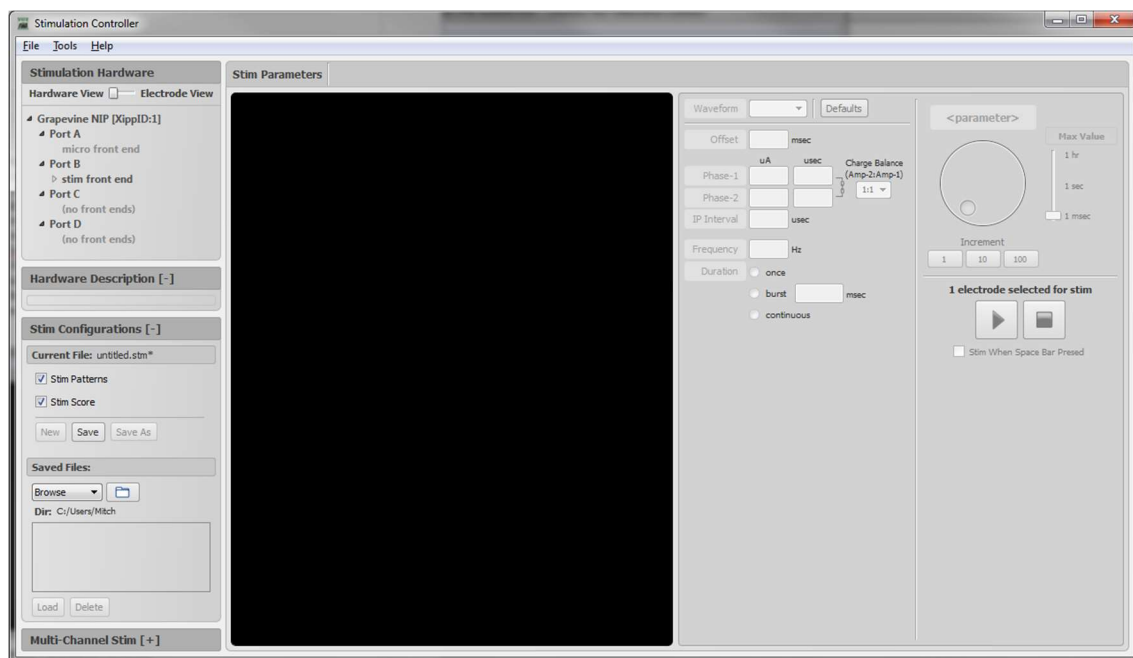
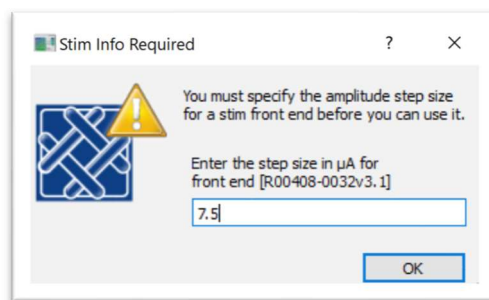
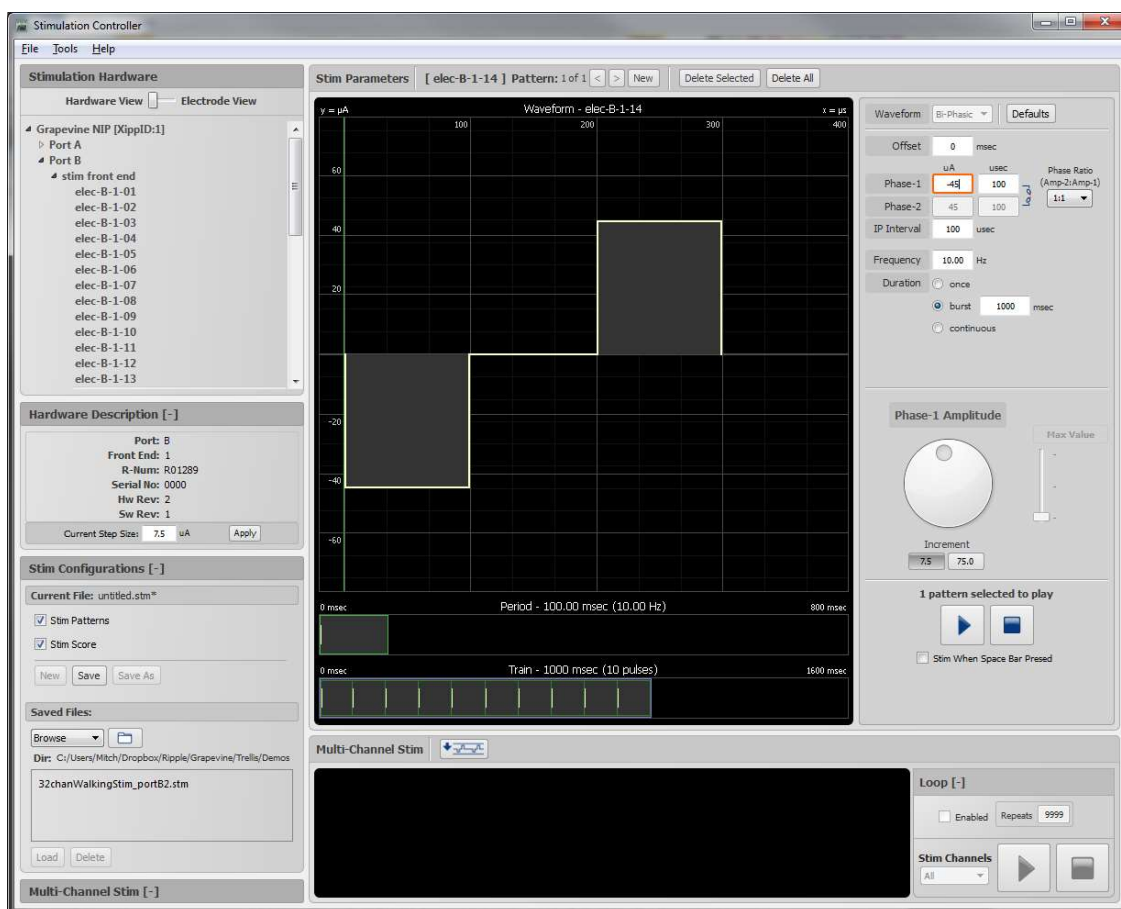
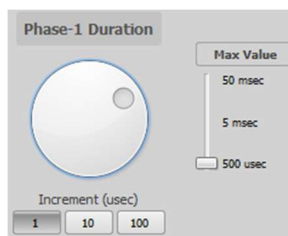

Figure 3-24 Trellis Applications – Stimulation Controller
Figure 3-25 Trellis Applications – Stimulation Controller – Stimulation current step size (Micro+Stim)
Figure 3-26 Trellis Applications – Stimulation Controller – single electrode stimulation pattern
Figure 3-27 Trellis Applications – Stimulation Controller - Parameter dial
When the application is started, the Stimulation Hardware panel in the top left will display all available Stim FEs and their channels. All other FEs, which do not support stimulation, will be grayed out, as shown in Figure 3-24. The stimulation current step size for Stim FEs is user-controlled and set in the Hardware Description Panel, described later in this section. For the older Micro+Stim FE, the stimulation current step size must be entered when a Micro+Stim is loaded in the Stimulation Controller app for the first time, as shown in Figure 3-25.
After expanding the ‘micro+stim front end’ entity in the Stimulation Hardware panel and selecting an available electrode, a configuration display will appear, as seen in Figure 3-26. This display provides the Front End hardware information and enables the configuration of various stimulation parameters for one or more electrodes as described in the following sections.
On the left of the Stimulation Controller window are several information and control panels that can be expanded and minimized by selecting the [+] or [-] next to each panel label. A detailed description of the panels follows (Refer to Figure 3-26):
- **Stimulation Hardware.** This panel displays a list of all available stimulation channels. In parentheses next to each electrode is a label indicating the number of different stimulation patterns that have been created for that electrode. When a channel is selected, its current stimulation pattern is displayed in the Stim Parameters control panel. If no patterns have been defined for a selected channel, a default pattern will be created (indicated by a * in the channel list, as shown in Figure 3-26). An electrode map file can be used for electrode labeling by switching to 'Electrode View' and loading the desired map file.
- **Hardware Description.** The technical specifications of the FE will be displayed here when an electrode is selected in the Stimulation Hardware panel, including the stimulation current step size, shown as 7.5 μ A for the Micro+Stim FE in Figure 3-26. For Micro+Stim FEs, this is the discrete amplitude step size that is programmed in the FE at the time of production. The step size value must be entered when the Micro+Stim is first loaded in the Stimulation Controller app (Figure 3-25). If the wrong value is entered, the step size can be changed by altering the value and selecting 'Apply'. For all other Stim FEs, this amplitude step size is user-selected through a drop-down menu.
A stimulation parameter can be changed either by entering a numerical value in the corresponding field or by selecting the field (noted by an orange box around it), and then using the parameter dial pictured below the parameter fields in Figure 3-26 and close-up in Figure 3-27 below. The dial can be rotated by clicking on it and dragging the mouse, or by positioning the cursor over the dial and rotating the mouse wheel (hold down Shift for a larger step size). The increment for changes in parameter value can be set by selecting one of the values below the dial and the maximum allowable parameter value can be set by moving the slider bar to the right of the dial.
Waveform Display. Shown in the top center of Figure 3-26 and in Figure 3-29, the Waveform display shows one cycle of the stimulation parameters for Phase-1, the IP Interval, and Phase-2. The time and amplitude scales of the Waveform display can be altered by positioning the cursor over the Waveform display and using the [+] [-] buttons that appear, or by holding down the Shift key (Alt for amplitude), and then scrolling the mouse wheel.